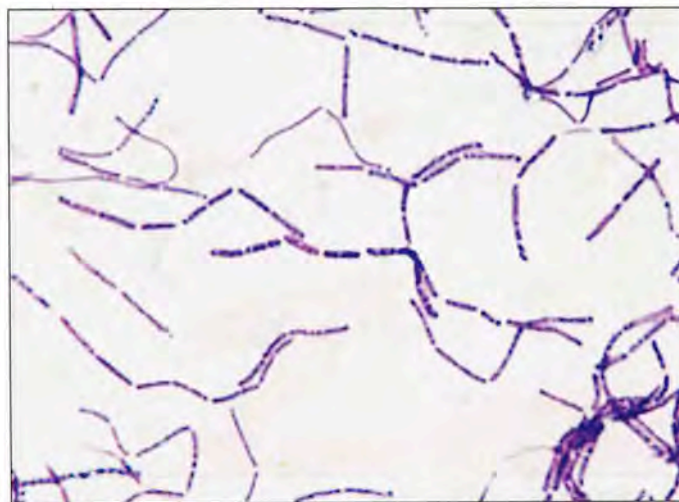

FIGURE 1A.18 Streptobacillus Arrangement (Crystal Violet Stain) • *Bacillus megaterium* is a streptobacillus. These cells are 2–5 μm long by 1.2–1.5 μm wide.
FIGURE 1A.16 Palisade and Angular Arrangements of Arthrobacter (Gram Stain) • Stacking of rod-shaped cells side-by-side is the palisade arrangement (P). An angular arrangement (A) is when a pair of rods is bent where the cells join. Both arrangements are due to “snapping division” in which the cells divide lengthwise and remain more or less attached. *Corynebacterium* also shows these arrangements.
FIGURE 1A.17 Acid-Fast Stain of Mycobacterium nonchromogenicum • *Mycobacterium* species are typically composed of slender rods with a “beaded” appearance (note the dark spots). Because of their waxy walls, they are difficult to emulsify and tend to clump.
FIGURE 1A.19 Single Bacilli (Carbolfuchsin Stain) • *Clostridium butyricum* tend to appear as single bacilli. It is the type species for the genus (meaning it was the first described *Clostridium* species back in 1880!). It is found in soil and aquatic environments, as well as in human feces and many other habitats. It produces endospores, which are visible in this image as bulges toward the ends of some cells. The cells range in size from 0.2–1.7 μm in diameter by 2.5–7 μm long.